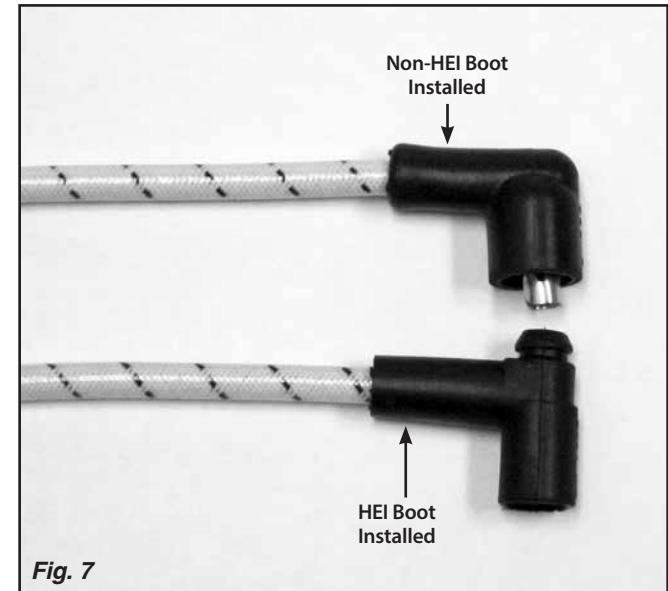

Fig. 7
Step 12: If you have a non-HEI distributor cap, carefully slide the boot back down the cable and maneuver it over the terminal into position. You can apply a small amount of silicon lubricant to the cable to make the boot slide more easily. **Fig. 7**
If you have an HEI distributor cap, apply a small amount of silicone lubricant to the inside of a distributor cap boot and to the outside of the cable. Slide the boot over the terminal and onto the end of the cable. **Fig. 7**